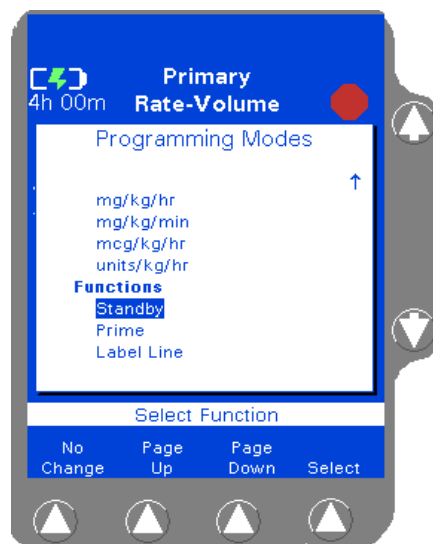

Figure 4-73 Programming Modes Menu
3. From the Programming screen, press the **Change Mode** soft key. The Programming Modes menu is displayed (Figure 4-73).